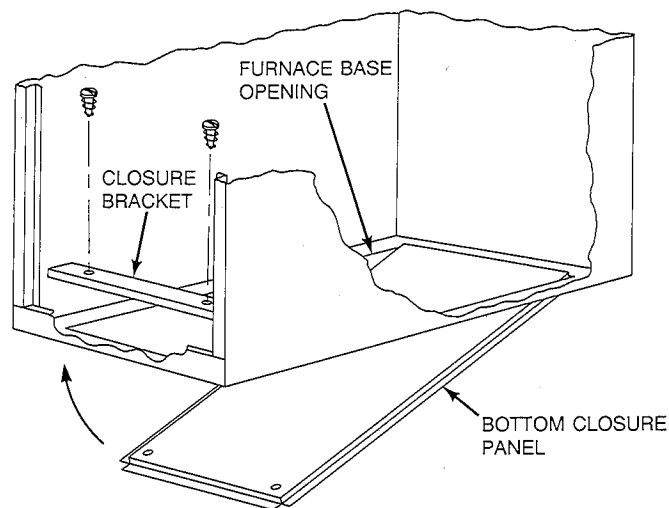

Fig. 5—Installing Bottom Closure Panel ^{A91111}
2. With furnace either tilted or raised, install panel in opening from bottom of furnace. (See Fig. 5.) If leveling legs were installed on bottom of unit, the panel may have to be notched to avoid interference with legs.
3. Install bottom closure bracket. (See Fig. 5.)